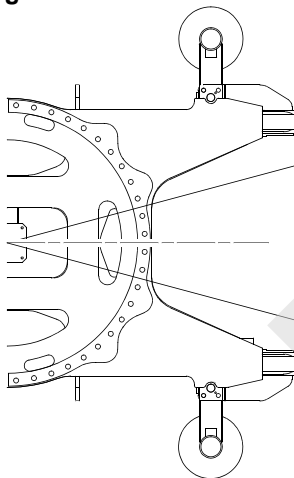

FIGURE 4-9
- Do not swing 15° either side of center (Figure 4-9).